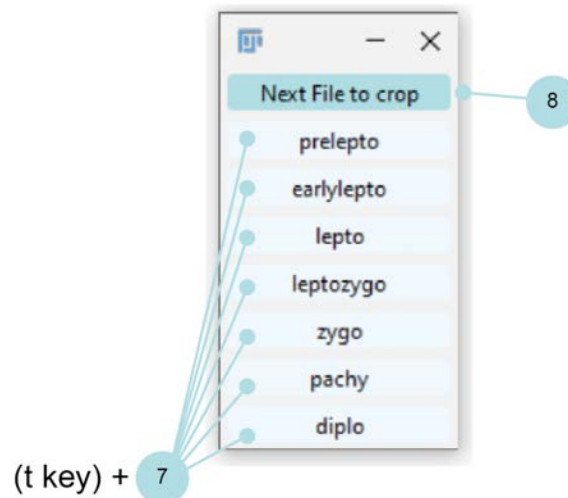

Figure 1.3. the crop stages bar
**STEP7.** The custom crop stages bar (shown in figure 1.3) will pop-up. You can use the freehand/magicwand selection “tool” to draw around a nucleus of interest, and then add the selection to the ROI Manager. You can do the same for any other nuclei of interest in the image that belong to the same stage. Then, you can click on the corresponding stage button (prelepto, earlylepto, lepto, leptozygo, zygo, pachy, or diplo). This will duplicate the image using the selection and set pixels outside the selection to black for each channel. The processed image will then be saved in a "processedData" subfolder as a .tif file, with a meiosis stage prefix and an identification suffix (\_0, for example). The user-defined ROI will also be saved in the same folder as a .roi file. The custom bar has no name, so it cannot be automatically closed. If you want to create a new custom bar, you need to close the current one manually first.